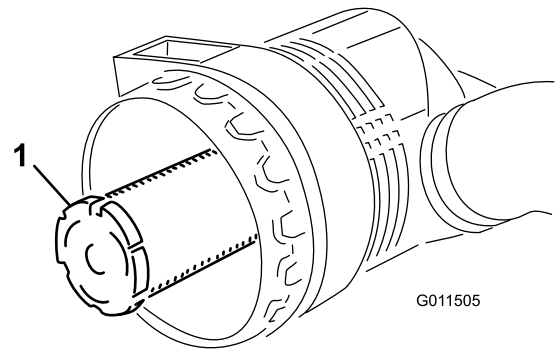

Figure 57
**Important:** Never attempt to clean the safety filter (Figure 57). Replace the safety filter after every 3 primary filter services.